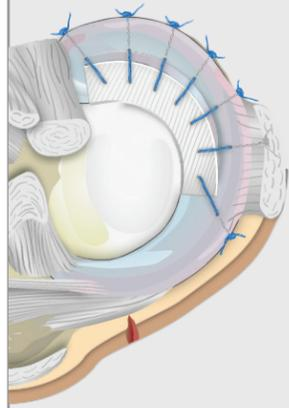

FIG. 8D.
- A greater number of sutures can be used in suturing the CMI implant to the meniscal rim due to the smaller diameter of meniscus repair needles and correspondingly smaller puncture holes through the CMI implant (versus the all-inside delivery needles). **FIG. 8D**